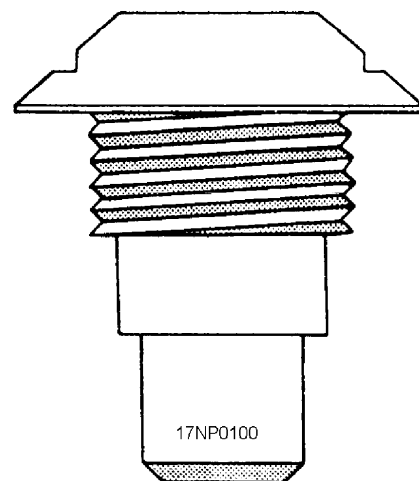

Figure 2-15.—Adapter booster BBU-15/B.
**NOTE:** Some rocket fuzes designed for use with 2.75-inch warheads can be used with the 5.0-inch warhead by using the BBU-15/B adapter booster (fig. 2-15).